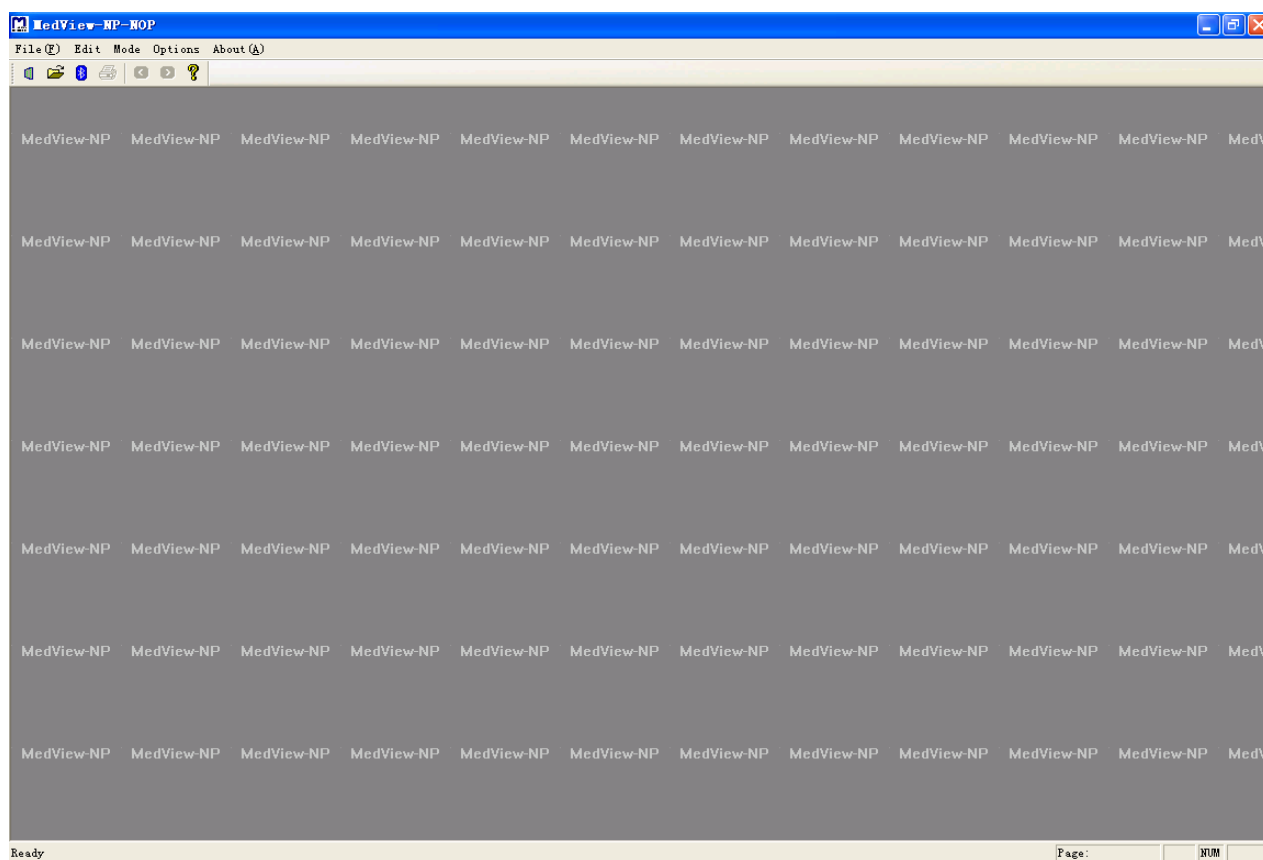
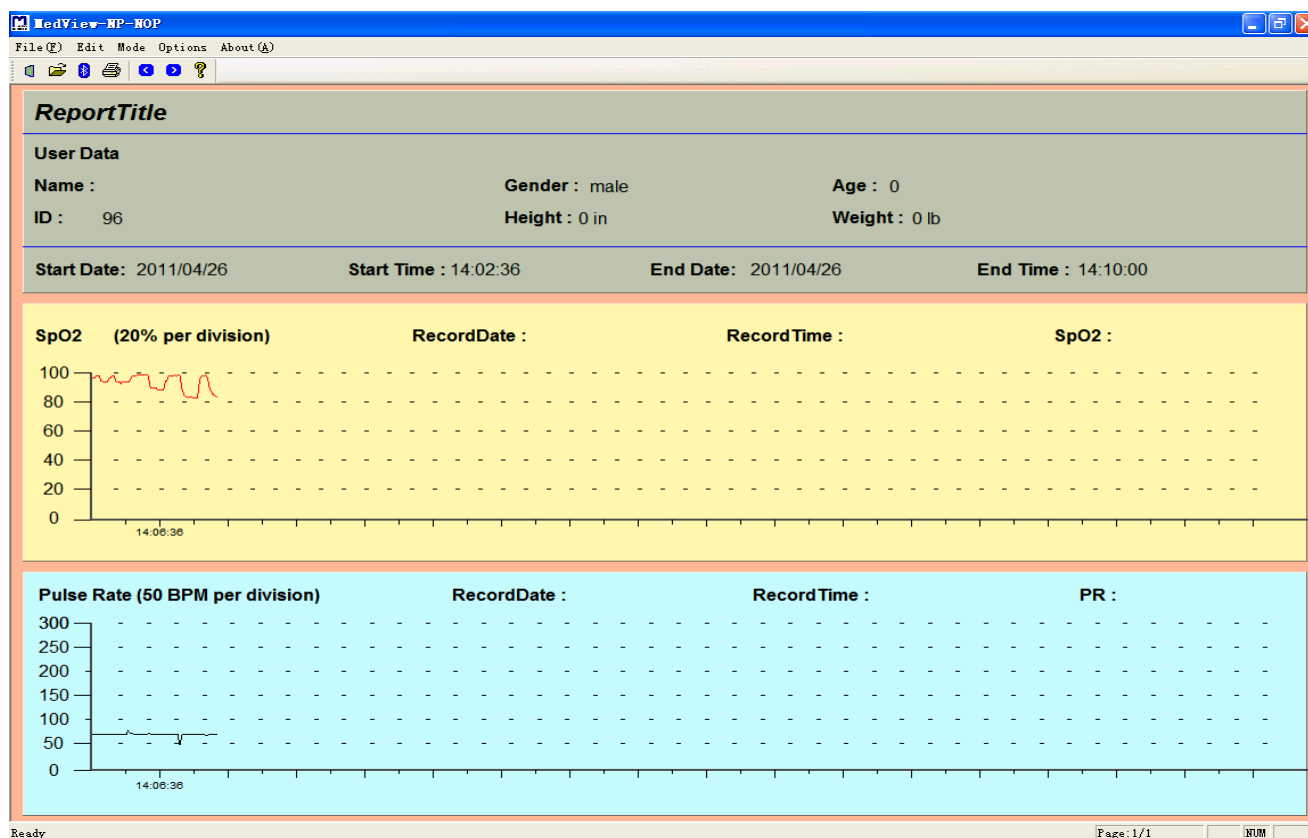

Figure 3-1
Figure 5-1
3.1.1 Double-click the icon “MedView-NP-NOP” on the desktop, the following screen will appear, as shown in Figure 3-1.
3.2.1 Click “File(F)” in the interface as shown in Figure 3-1, then the following figure will appear.
Click “Mode” icon in the interface as shown in Figure 3-1, then click “Trend” item in the drop-down menu as shown in Figure 5-1.